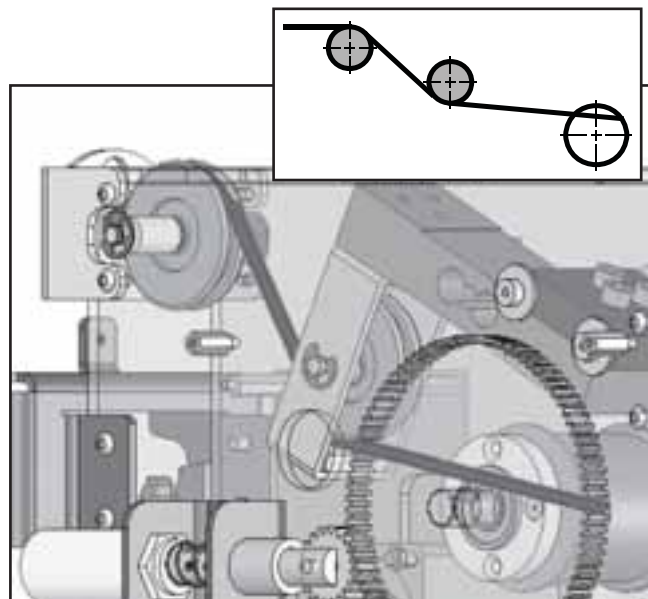

FIGURE 6.26
6. Route Traction Cord through the Load Cell Assembly Pulley and through the Chassis Upper Guide Pulley. See Figure 6.26.